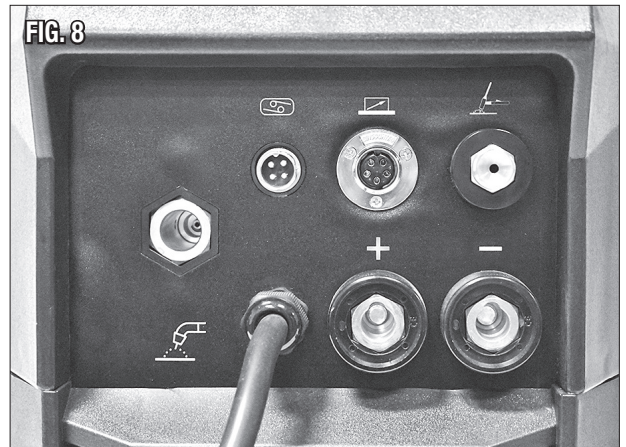

FIG. 8
- Slide the brass body of the Welding Gun in through the front of the Welder into the Welding Gun Power Connection located at the lower front panel "IV". (FIG 8). Be sure to insert until it bottoms against the drive assembly or a gas leak may occur.
- Connect the male metal plug to the female Cannon Plug Connection "I" on the front of the Welder. (FIG 8).
- Plug the 5 Pin Connector into the Foot Pedal Receptacle "II" located at the upper row of the front of the Welder (FIG 8).